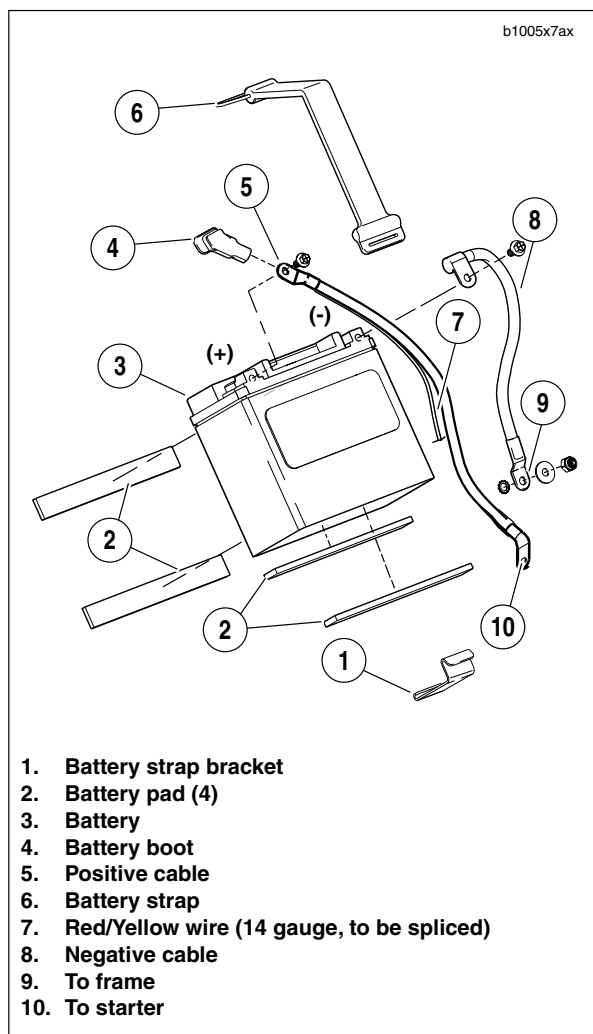

Figure 7-38. Battery
- See Figure 7-38. Disconnect negative and positive cables from battery, negative cable first.
- a. See Figure 7-38. Positive battery cable runs from starter to positive battery terminal.